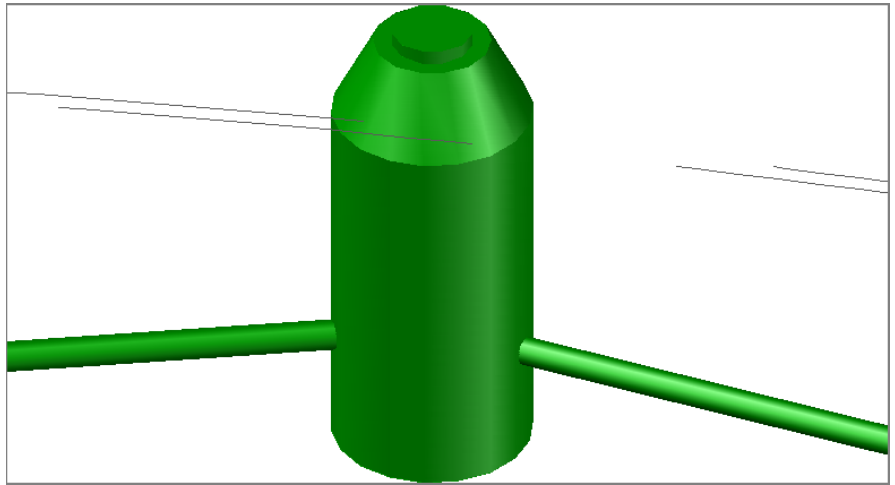

FIGURE 14.4 A 3D view of a pipe object and structure object
6. In the bottom-right viewport, zoom in to one of the manholes. In plan view, the entities look simple, but in this view you see that they are actually 3D pipe and structure objects (see Figure 14.4).